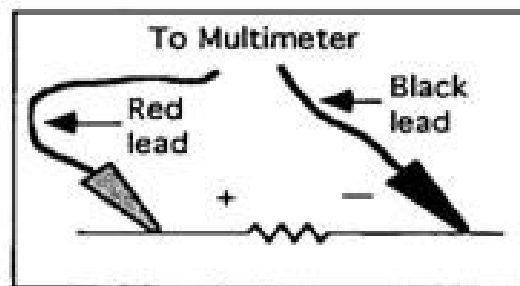

Figure 1.1: Measuring Voltage
- Then, apply the clips at the end of the leads as shown in Figure 1.1 (In the example below, the voltage is being measured across the resistor.)
- Then, apply the clips at the end of the leads as shown in Figure 1.1.